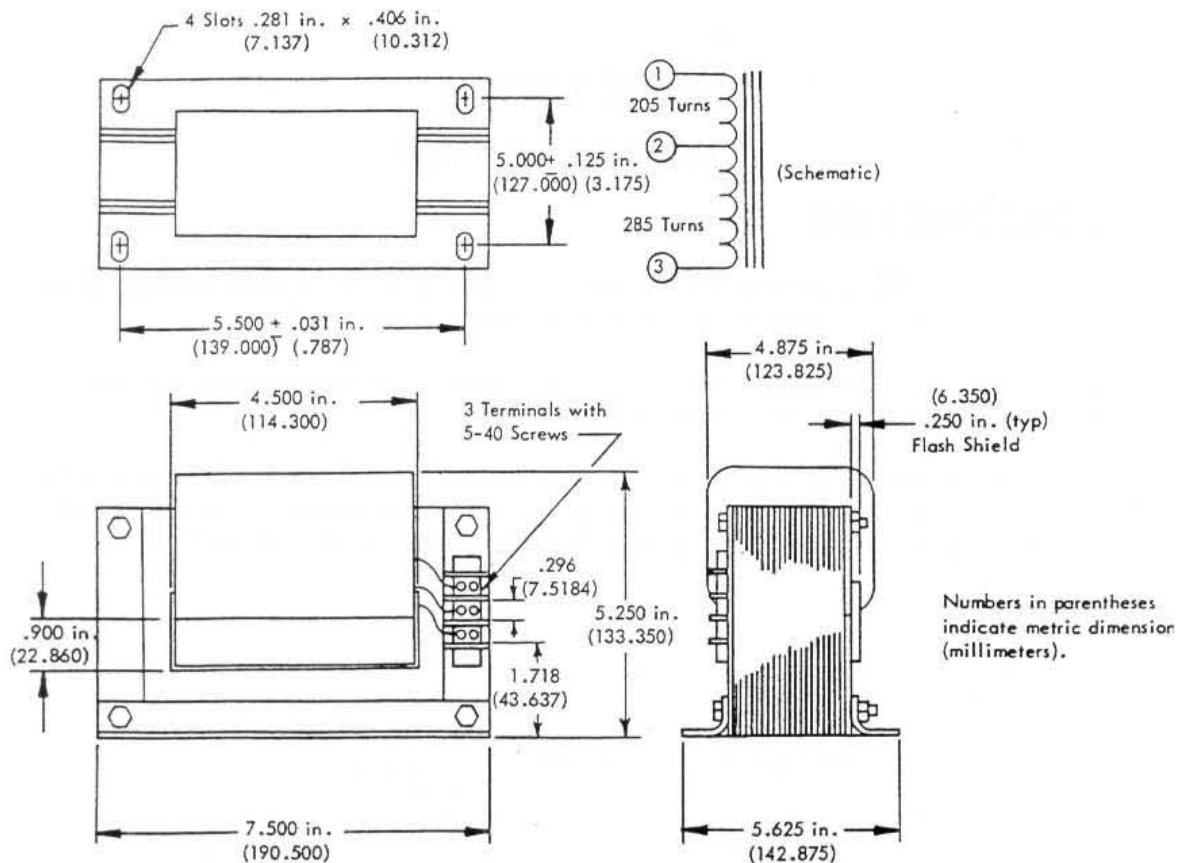
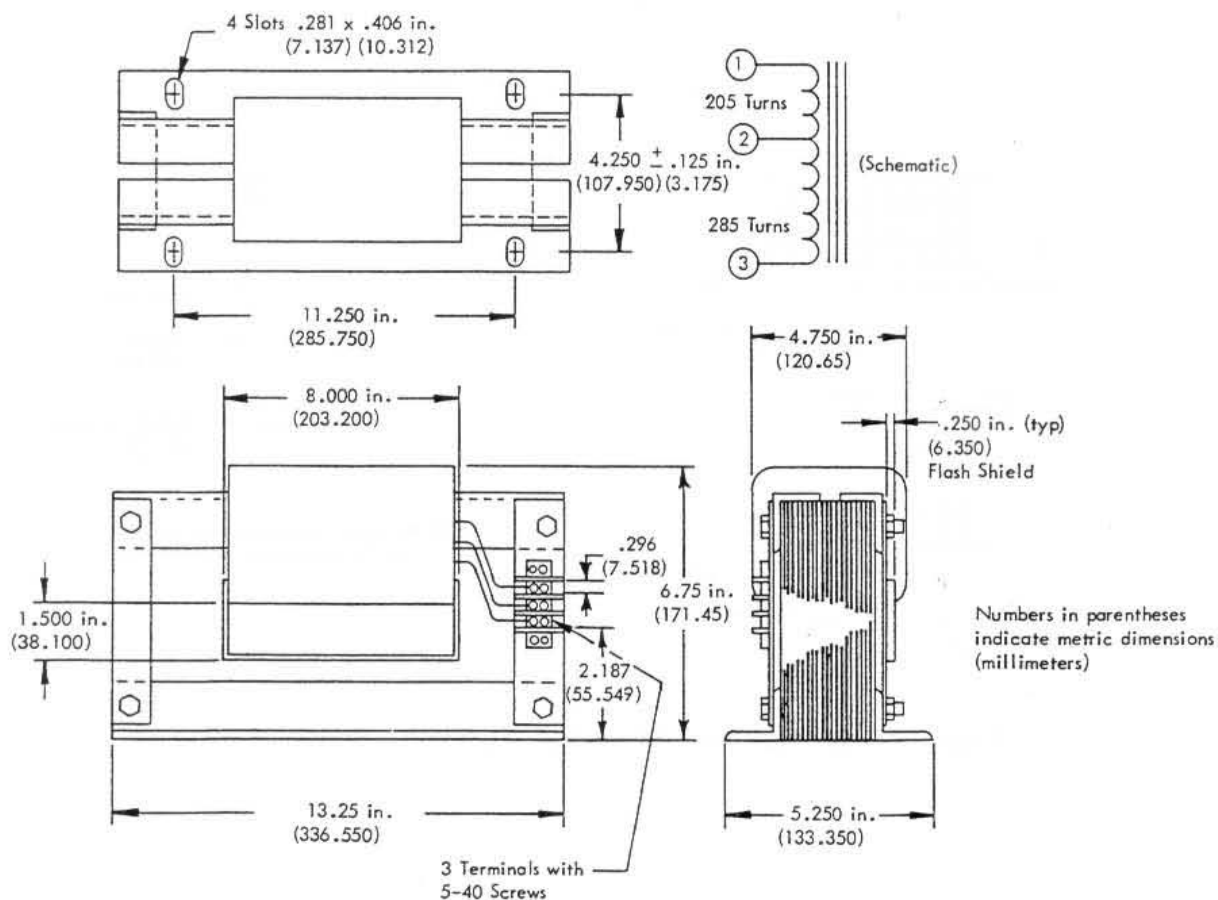

Figure 4-2A. Outline Drawing - Current Transformer Pt no. BE 15486-001
Figure 4-2B. Outline Drawing - Current Transformer Pt. no. BE 16866-001
- a) P/N BE 15486-001 - standard size (see Figure 4-2A)
- b) P/N BE 16866-001 - larger "window" (see Figure 4-2B)
The current transformer(s) selected for use with the CBS 344 or CBS 377 system is placed in two phases of the generator output to provide a source of both operating power and current boost for the current boost module. See Figure 4-3A. Secondary coil taps are provided to select appropriate ampere turns. Two electrically identical transformers are available: P/N BE 15486-001 (standard, see Figure 4-2A) and P/N BE 16866-001 (larger cable "window", see Figure 4-2B).
See Figure 4-2A and 4-2B for the configuration of the two available CTs. (Both CTs have identical electrical characteristics - however, the CT shown in figure 4-2B has a larger "window" for accepting the generator cables).